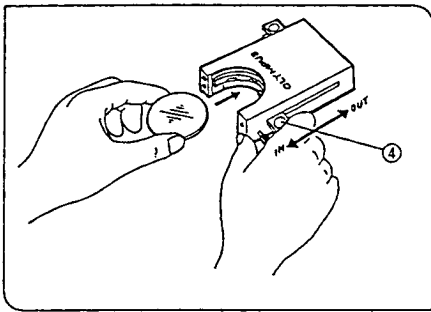

Fig. 26
Using the Filter Cassette (Figs. 26, 27, 28, 29)
Loading Filters into the Filter Housing (Fig. 26)
- ③ The filter housing accommodates filters with a diameter of 45 mm and a thickness of 2.7 mm or less.
- ③ The filter housing has two filter levers on the right side and one on the left side.
2. Slide lever ④ to the IN position. Make sure that it clicks securely into place. (Fig. 26)